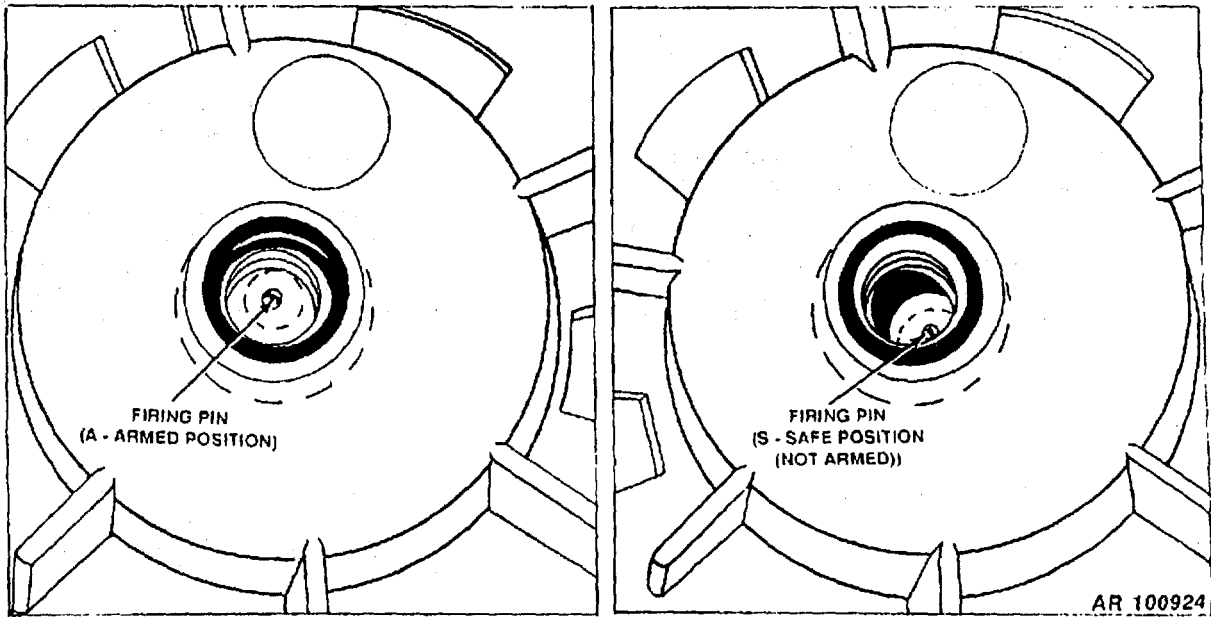

Figure 2-48. Armed and unarmed firing pin in fuze M606.
- (6) Turn fuze bottom-side up and remove white plastic shipping plug from detonator well, using wrench M22 and turning in counterclockwise direction.
- (7) Examine for foreign material and, if present, remove foreign material from opening.
- (8) Visually check position of firing pin. If armed (firing pin centered) (fig. 2-48), reject fuze. If not armed (firing pin point positioned at edge of hole), continue to next operation.